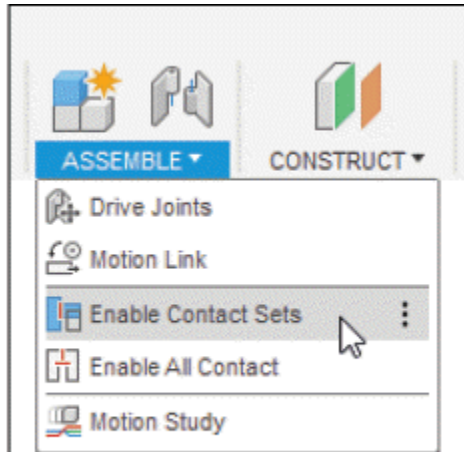
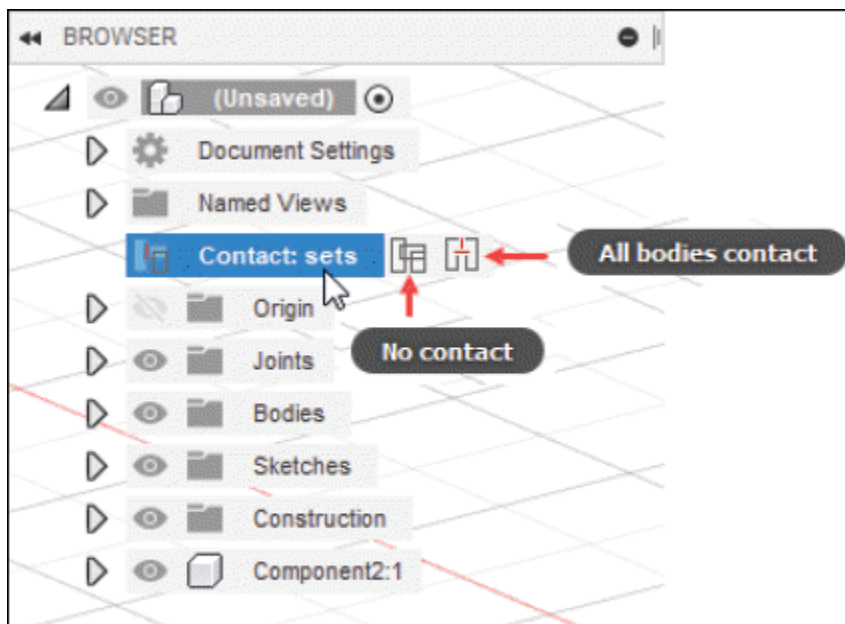

Figure-51. Enable Contact Sets tool
Figure-52. Contact sets
- Click on the **Enable Contact Sets** tool of **ASSEMBLE** drop-down from **Toolbar**; refer to Figure-51. The tool will be displayed in **BROWSER**; refer to Figure-52.